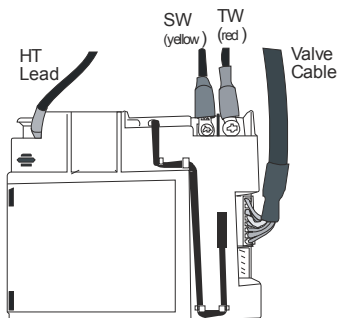

Figure 55
2. Gently pull out the HT lead and the valve cable from the receiver (see **Figure 55**).